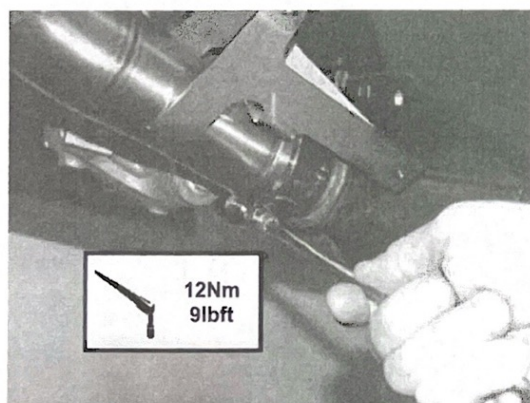

Figure 26
3. For SLIP-ON with optional link-pipe only: tighten the lower metal clamp and reinstall the stock heatshield using stock bolts and washers (Figure 26, 27).